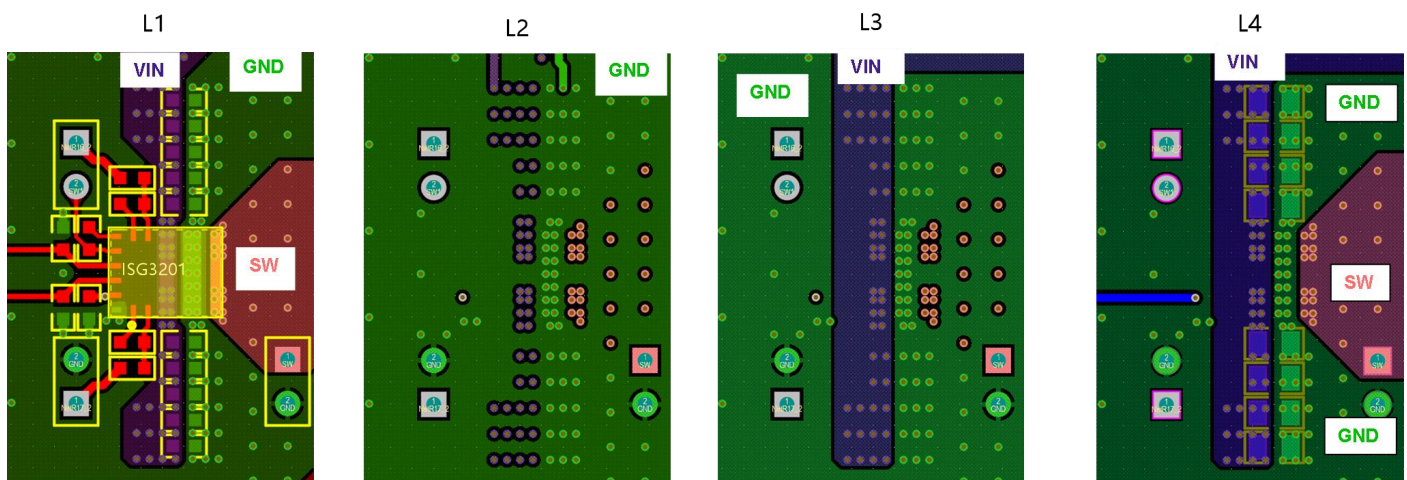

Figure 3. 4-Layer Layout Example
1. The optional resistor between HGP(LGP) pin and HG(LG) pin to adjust the turn-on speed of the GaN HEMT should be placed close to ISG3201.
3. The power input decoupling caps should be placed close to Vin bar and PGND bar. One 4-layer layout example is shown as Figure 3. 2-layer board design is also possible thanks to the optimized ISG3201 pinout.